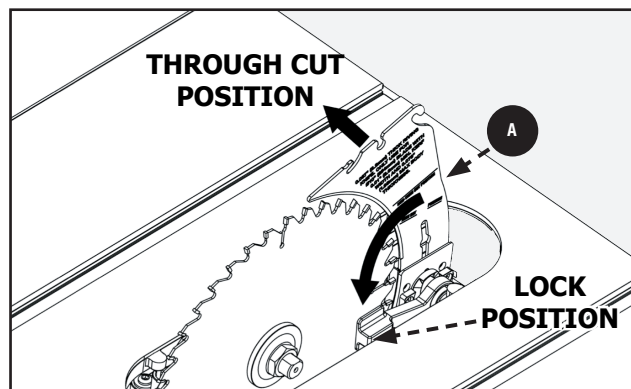

FIGURE 10
8. Return Wrenches (PC8) and (PC9) to On-Board Storage location and secure the M8 Wing Nut. Position the Riving Knife in the through cut position prior to installation of Throat Plate. See Figure 10.